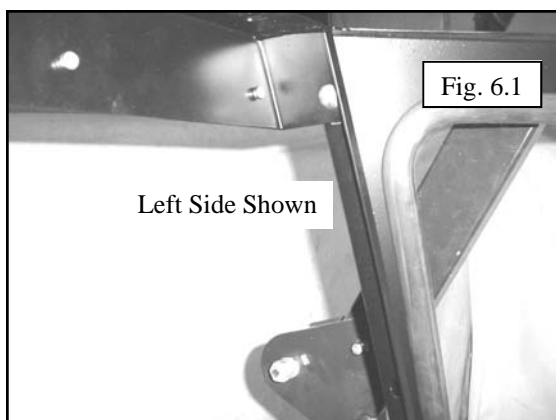

Fig. 6.1
6.1 Per fig. 6.1, install top rear panel to top holes of the left & right rear legs using (2) 5/16" x 3/4" carriage bolts. Offset should face the rear of the tractor, and the snaps should face in. Secure the panel with flat washers and lock nuts. Tighten the bolts with the top of the rear panel flush with the top of the rear legs.